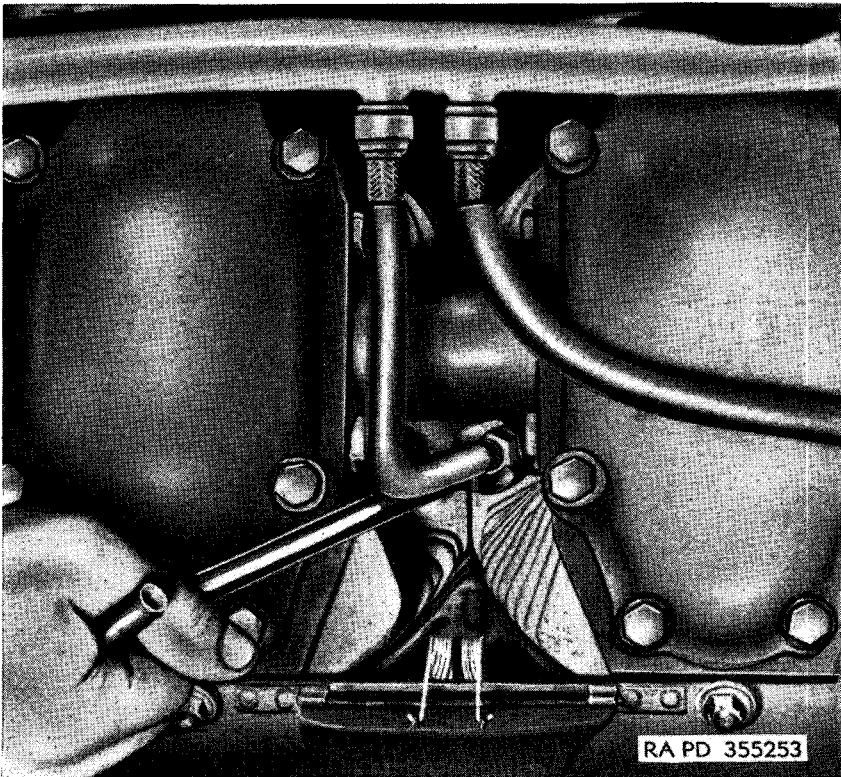
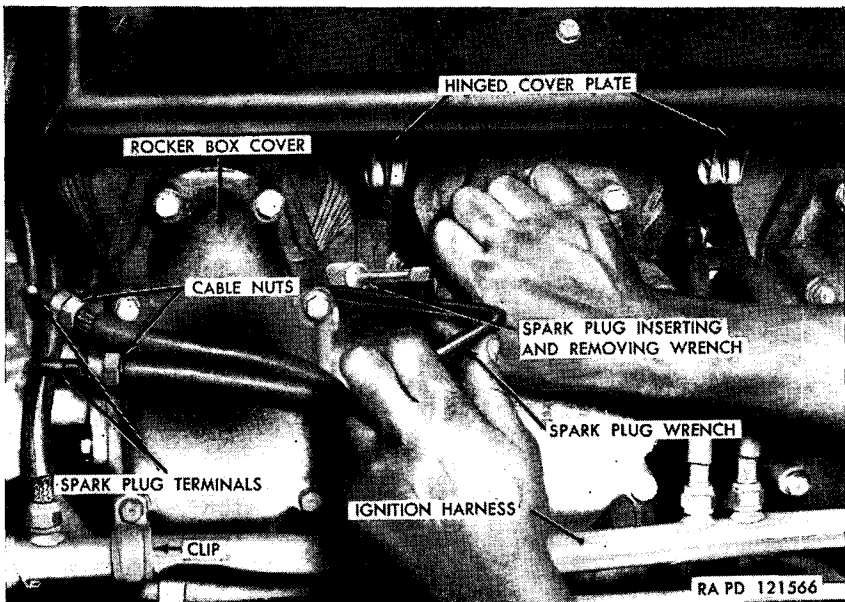

Figure 168. Removing spark plug cable nut with cable nut wrench 4i-W-871-70.
Figure 170. Using spark plug inserting and removing wrench 41-W-3306-500 and spark plug wrench 41-W-3304-800 to insert and tighten plug.
a. REMOVAL. Turn off master relay switch (fig. 18). Remove intermediate section of top deck (par. 158c). All spark plugs can now be removed except the two front and the two rear ones. To remove the two front plugs, remove the front section of the top deck (par. 158c). To remove the two rear spark plugs, remove the two spark plug access opening covers in engine rear shroud (fig. 221). Pull up hinged cover plates (fig. 170) over each spark plug. Detach spark plug cable from spark plug by loosening cable nut at spark plug with cable nut wrench 4i-W-871-70 (fig. 168) and pulling cable free.
Note. Insert spark plug inserting and removing wrench 41-W-3306-500 (fig. 170) on top of plug to aid lifting plug out of recess.
c. INSTALLATION. Install new gasket on spark plug. Screw spark plug inserting and removing wrench 41-W-3306-500 on top of spark plug (fig. 170) and insert plug into cylinder head. Tighten plug, using a deep socket wrench to 200 to 225 lb-in torque. Install spark plug cable, using cable nut wrench 41-W-871-70 (fig. 168). Close hinged cover plates (fig. 170) over each spark plug. Install spark plug access opening covers (fig. 221). Install front and intermediate sections of top deck (par. 161*b*).